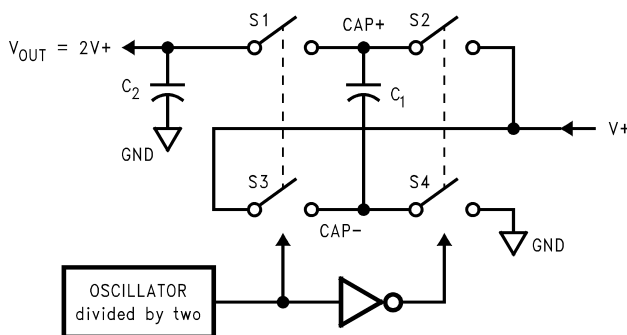

図 9-2. Voltage Doubling Principle
The LM2767 contains four large CMOS switches which are switched in a sequence to double the input supply voltage. Energy transfer and storage are provided by external capacitors. Figure 9-2 illustrates the voltage conversion scheme. When S_2 and S_4 are closed, C_1 charges to the supply voltage $V+$. During this time interval, switches S_1 and S_3 are open. In the next time interval, S_2 and S_4 are open; at the same time, S_1 and S_3 are closed, the sum of the input voltage $V+$ and the voltage across C_1 gives the $2V+$ output voltage when there is no load. The output voltage drop when a load is added is determined by the parasitic resistance ($R_{ds(on)}$ of the MOSFET switches and the ESR of the capacitors) and the charge transfer loss between capacitors. Details are discussed in Section 9.
- R_{SW} is the sum of the ON resistance of the internal MOSFET switches shown in Figure 9-2.